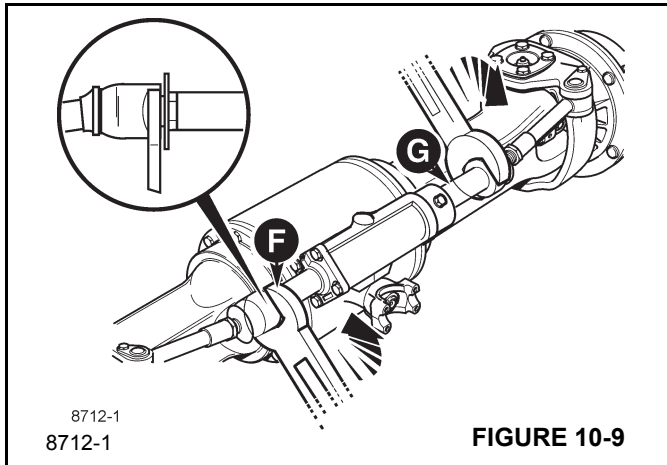

FIGURE 10-9
- a. Using two suitable open ended spanners located on the flats at **F** and **G** (Figure 10-9), rotate against each other until one ball joint unscrews.